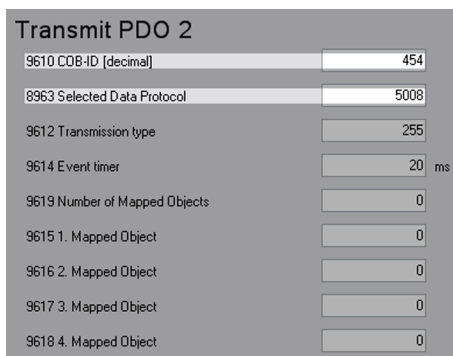

Fig. 36: ToolKit transmit PDO 2 (example)
1. ➤ Select "Parameter ➔ Configure interfaces ➔ Transmit PDOs" (Refer to Fig. 36 for details).